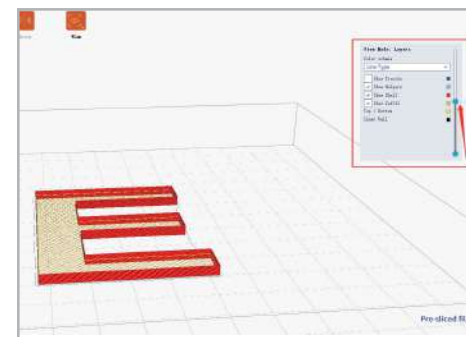

Figure3-04
4. If you want to preview the printing process in advance, you can click the layer, select the material color as the color scheme, check the displayed options according to your needs, and then drag the right sliding axis to preview the printing process, as shown in Figure 3-04;